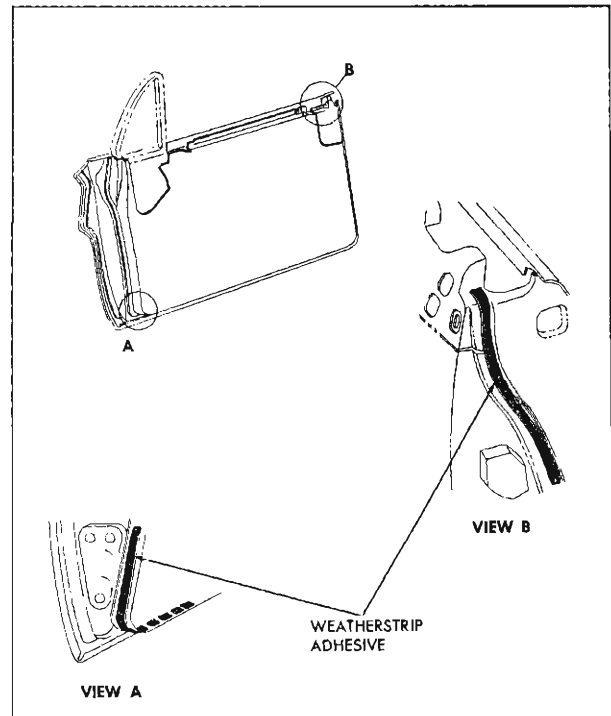

Fig. 19—Front Door Weatherstrip Cementing
2. Carefully break cement bonds securing weatherstrip to door. A flat-bladed tool, such as a putty knife, will prove helpful in breaking cement bond (fig. 19).
2. Clean off old cement from door to insure a clean cementing surface. Apply a bead of an approved weatherstrip adhesive to lock pillar facing of door. Begin adhesive application at belt line and continue down door for approximately seven to nine inches (fig. 19).